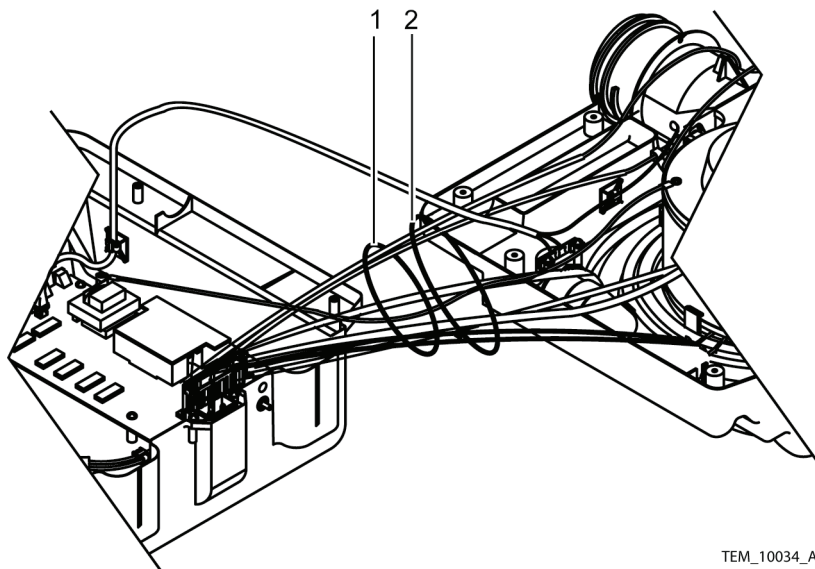

Figure 85. Cable Harness Bundle Ties
50. Install the cable harness bundle ties. See Figure 85, items 1 and 2.